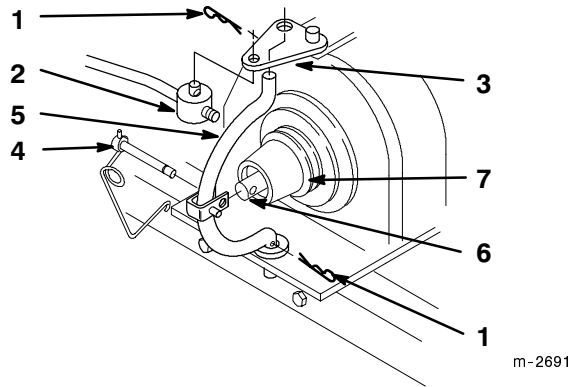

Figure 10
11. Remove hairpin cotters from trunnion and bottom of yoke (Fig. 10).
12. Unlatch and remove clevis pin that secures yoke assembly to clutch shaft. Pivot yoke out and forward to remove from clutch shaft and engagement plate (Fig. 10).
13. Place belt in outer pulley groove (Fig. 10).
14. Assemble yoke and engagement plate and attach clevis pin, trunnion and hairpin cotters to secure (Fig. 10).